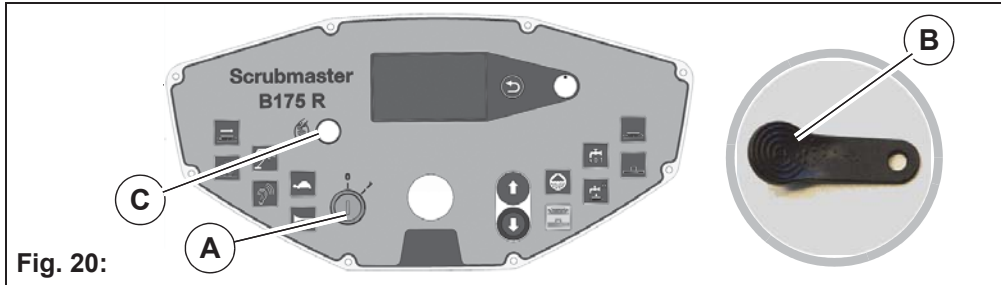

Fig. 20:
1. Turn the machine on with the key switch **Fig. 20-A**.
2. Press the iButton Key **Fig. 20-A** against the iButton Reader **Fig. 20-B** for one to two seconds.